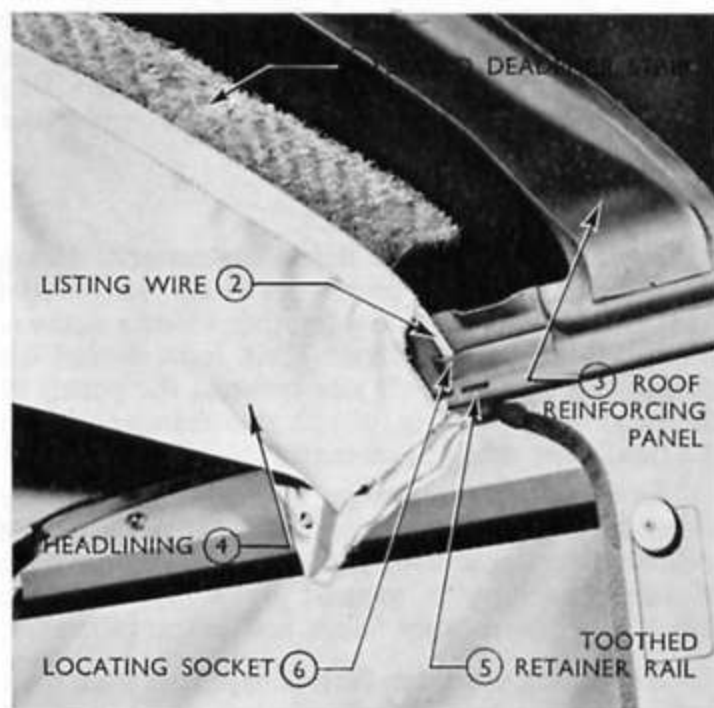

Fig. 21
6. Unscrew seven self-tapping screws and cup washers securing the rear edge of the headlining to the roof reinforcing panel (see Fig. 21).
8. The listing wires can then be removed from their sockets in the upper body framework (see Fig. 21).
2. Locate the listing wires in their body frame sockets (see Fig. 21).